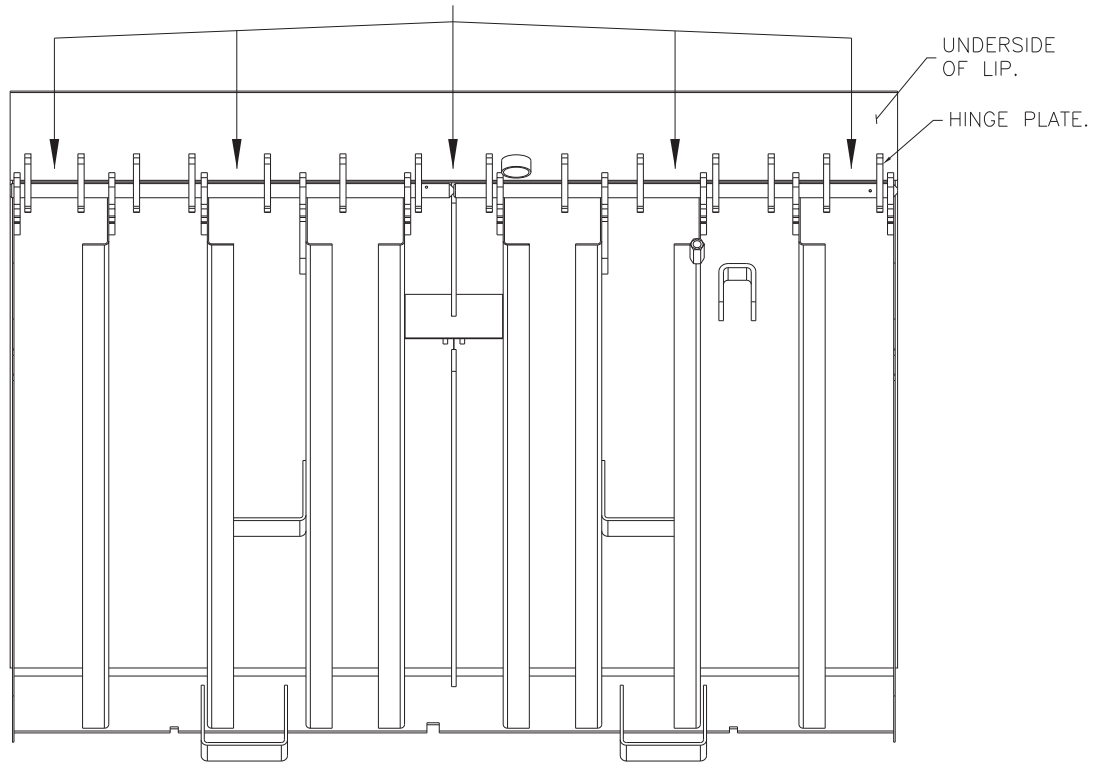

FIGURE 18
1. (6) "L" shaped clip brackets are supplied in hardware bag with each unit. These clip brackets mount to the underside of the leveler lip between the lip hinge plates. The long side of the bracket gets welded to lip and the short side bent to match the hinge plate angle. (See Figure 18.)